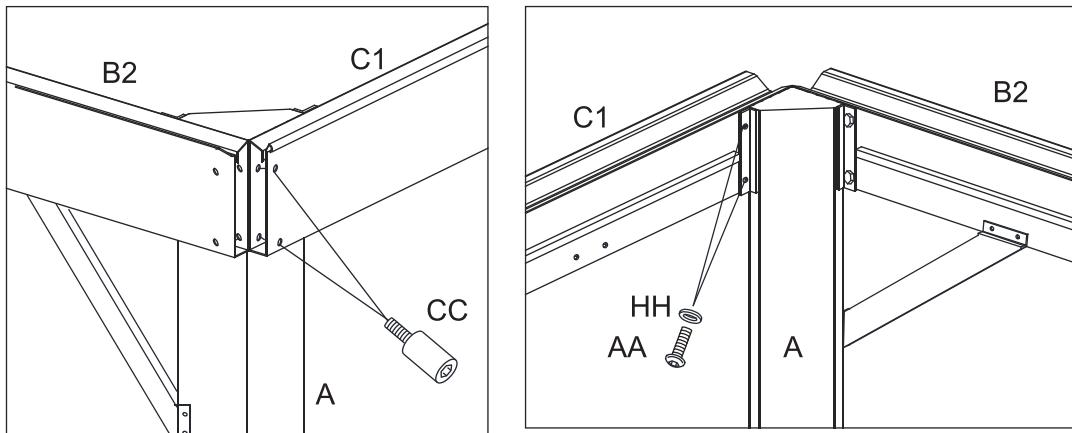
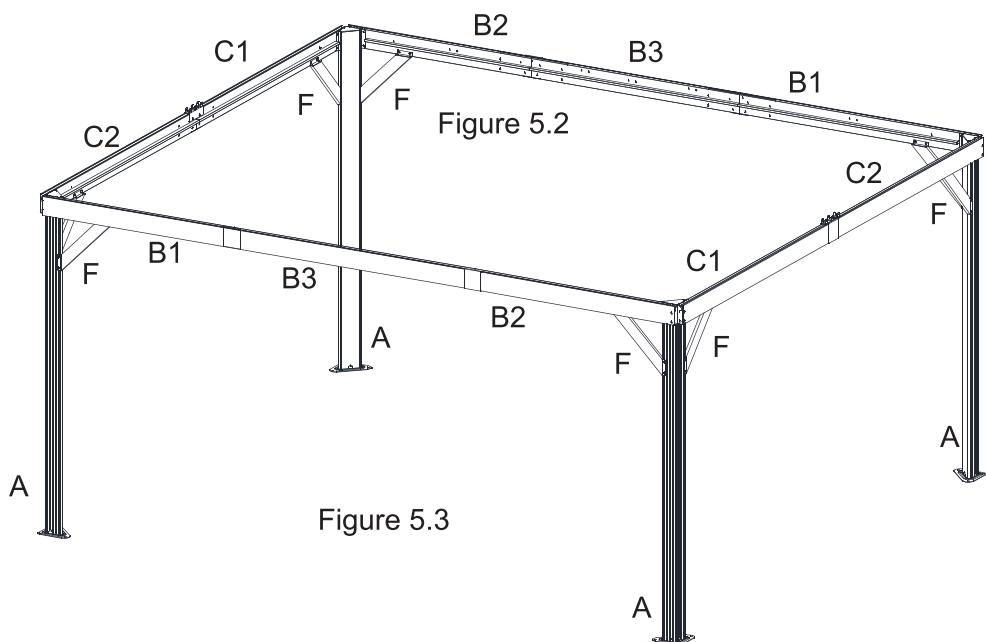

Figure 5.1
Figure 5.3
- 5.1. Attach Short Lintel (C1 and C2) to Corner Posts (A) first with Bolts (CC) then with Bolts (AA) and washer (HH) . Tighten all the Bolts. Repeat for opposite side . Tighten all Bolts. See Figure 5.1 and Figure 5.3.
- 5.3. Repeat for all Corner Posts and Lintels. Tighten All Bolts. See Figure 5.3.